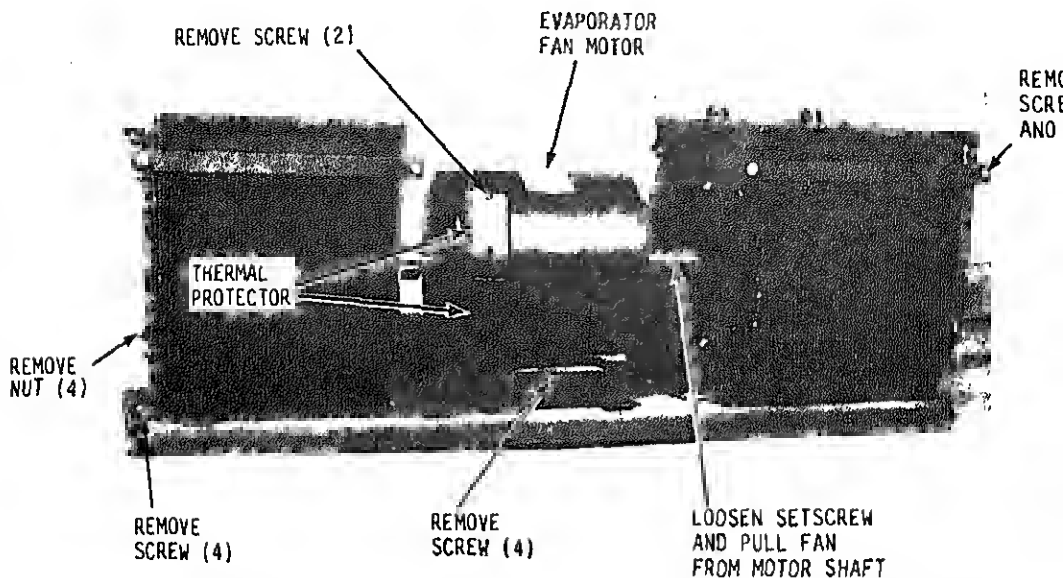

Figure 4-8. Evaporator, fan, motor, and thermal protector, removal and installation.
(3) Refer to figure 4-8 and disassemble the fan and motor assembly.
(1) Refer to figure 4-8 and remove housing from the high and low speed motor winding thermal protectors. Refer to para 4-22c and test thermal protectors.
(2) Test the motor for open-circuited or grounded windings as follows.
(1) Refer to figure 4-8 and assemble the fan and motor assembly.
(1) Refer to paragraph 4-21c and remove evaporator fan and motor assembly.
(2) Refer to figure 4-8 and solder thermal protectors.
(1) Refer to figure 4-8, install thermal protectors.
(2) Refer to paragraph 4-21e and install evaporator fan and motor assembly.
(1) Refer to paragraph 4-23 and remove the condenser fan and motor assembly.
(2) Refer to figure 4-8 and remove the thermal protector.
(1) Refer to figure 4-8 and install the thermal protector.